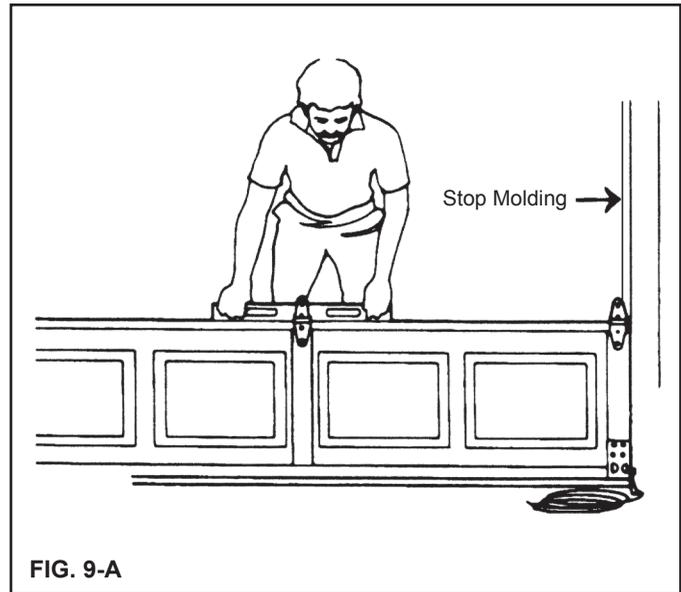

FIG. 9-A
Step 9-1: Place the section in the opening so that it is against the stop molding and centered from side to side. Place a level on the section and use a piece of wood under one end or the other (if necessary) to make the section level. (FIG. 9-A)
Step 9-2: Remove the level and drive a 3" nail in the jambs at each end and bend it over the edge of the section to hold the section in place. (FIG. 9-B)